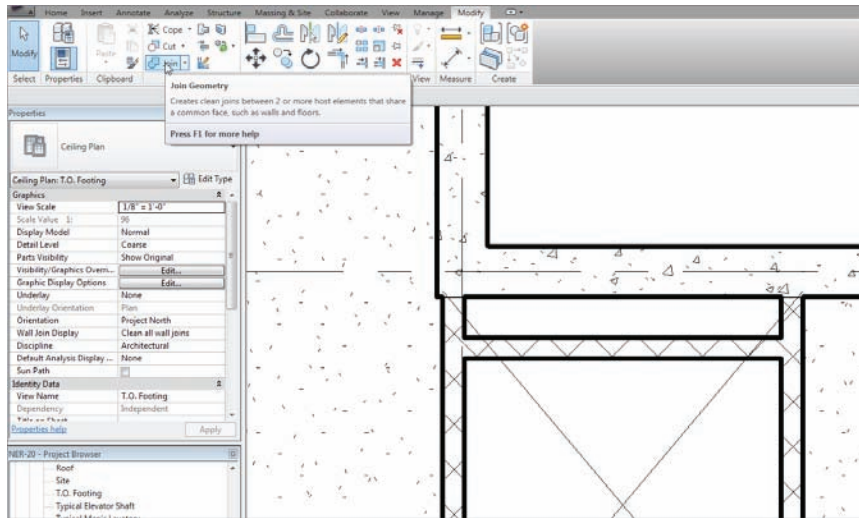

FIGURE 8.53 Joining the walls will enable the foundation walls to terminate as expected.
5. The masonry wall to the right needs to be joined to the foundation wall. To do this, click the Join Geometry button on the Modify tool-bar, as shown in Figure 8.53.